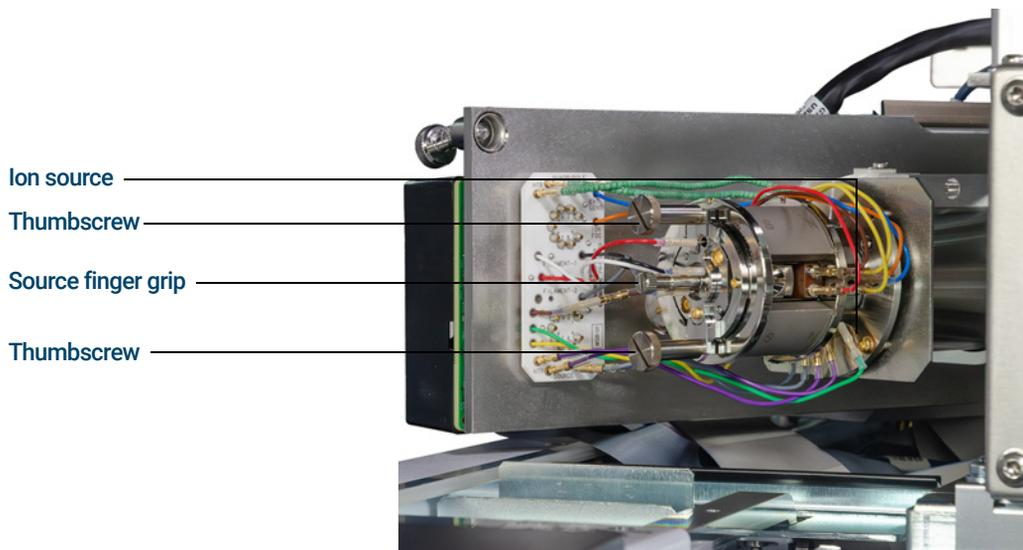

Figure 46. The EI HES 2.0 before removal
- 3 Remove the two large thumbscrews that hold the ion source in place. (See **Figure 46** on page 163.)
The source contacts have spring loaded pins so some force must be applied to pull the source out. (See Figure 46.)